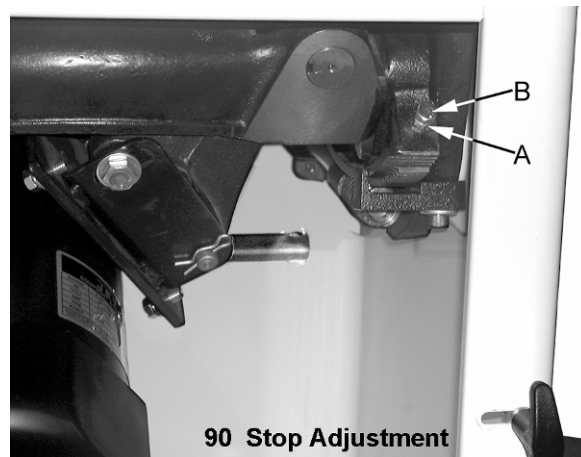

Figure 19
5. If blade is not at 90 degrees, open the motor cover door, loosen lock nut (A, Fig. 19) and turn adjusting stop screw (B, Fig. 19) on the front trunnion in, or out. The adjusting stop screw should stop against the front trunnion bracket when the blade is 90° to the table.
6. Tighten the lock nut (A, Fig. 19).
8. If the blade is not 45 degrees, remove the raising and lowering handle. Loosen lock nut (A, Fig. 19) and turn adjusting stop screw (B, Fig. 19) on the front trunnion in, or out. The adjusting stop screw should stop against the front trunnion bracket when the blade is 45° to the table.